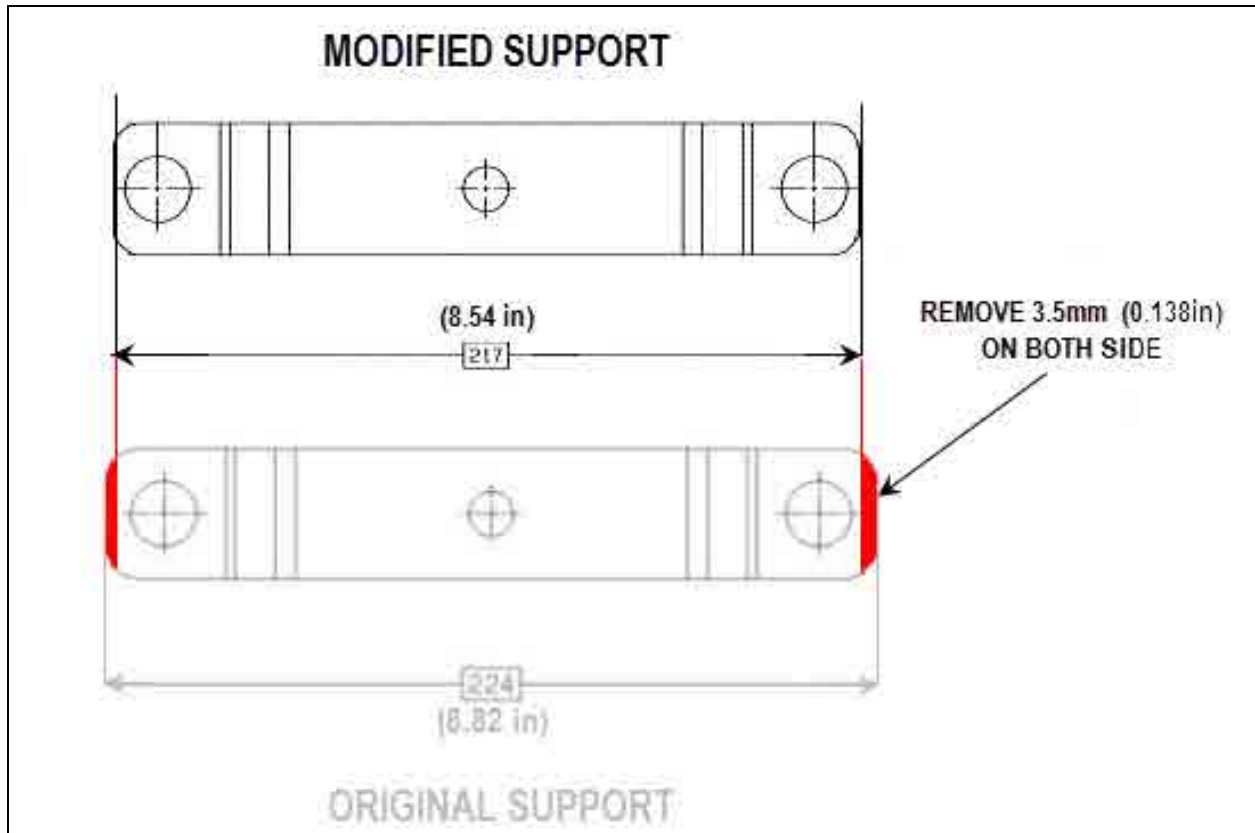

Figure 3
- 3) Using a bench grinder, remove 3.5mm from both ends of the hubodometer support. Refer to the illustrations below as a template and for the final measurement of the modified support (Figure 3).